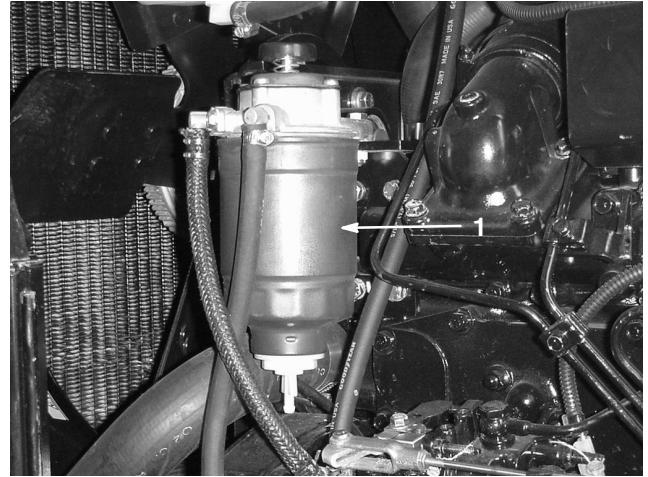

Figure 40
1. Locate the fuel filter/water separator near the fan on the left side of engine and drain the water chamber daily (Fig. 40).
2. Every 400 hours operation, or yearly, replace the filter element in the fuel filter/water separator (Fig. 40) and drain water from the fuel tank. Apply clean fuel to the filter O-ring. Use hands only to install and tighten filter.